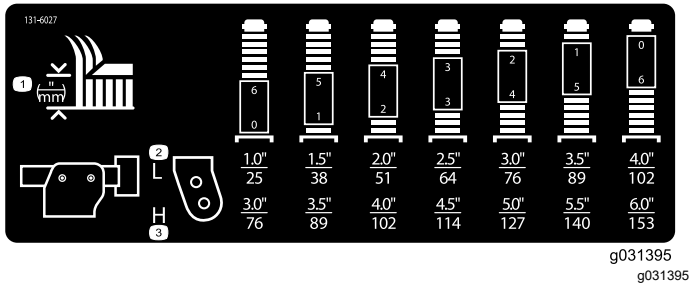

Figure 22
3. Position the caster-wheel axles in the same holes in all of the caster forks; refer to the chart to determine the correct holes for the height-of-cut setting (Figure 22).